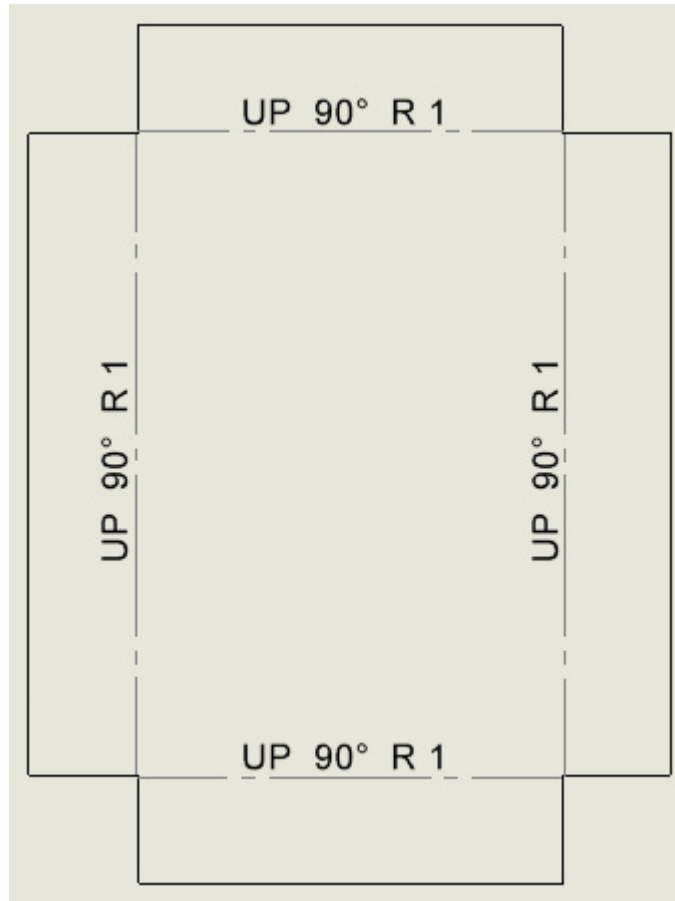

Figure 4.4: Flat Pattern view
3. Find the view labeled **Flat Pattern** and drag this onto the second sheet (see *Figure 4.4*). A flattened view of the part—the **Flat Pattern**—should now be visible: